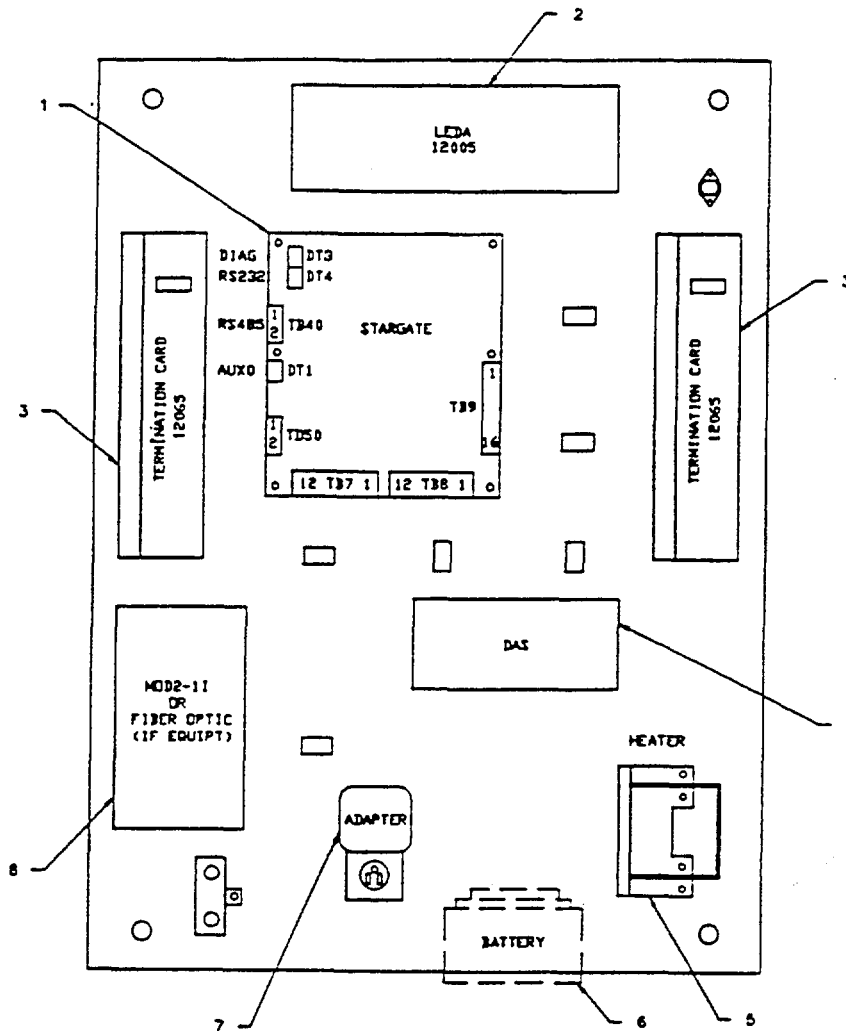

Figure 1-9. Remote Area Data Collector Components (Exterior +12 V)
e. Remote Area Data Collector (RADC) Components (Exterior) .(See Figure 1-9)
- (1) **STARGATE 1000 (item 1).** The PWA contains the programs to monitor the status of optional devices and process and forward this information to the PMC. The STARGATE 1000 PWA is used in the Exterior RADC.
- (2) **Leda (Item 2).** A PWA used to connect up to 12 additional sensors via the termination PWA to the RADC via the AUX 0 port. The Leda operates from 12 vdc provided from the stargate 5000 or 1000 board or via the keypad IAU.
- (3) **Termination Card (Item 3).** A PWA that can interface 12 additional devices to the Leda PWA. There are two termination cards in the exterior RADC.
- (4) **Data Encryption System (Item 4) (optional unit).** Provides secure data communications (encryption) for specified PMC, RSM, and RADC communications links.
- (5) **Heater (Item 5).** Thermostatically controlled to maintain acceptable humidity.
- (6) **Battery, 12 vdc, 7 amp hr. (Item 6).** The batteries provide for 6 hour backup and take 12 hours to be fully recharged once completely drained.